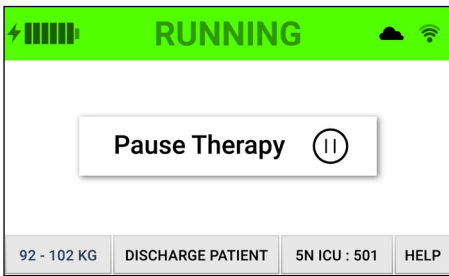

Figure 7. Running screen
When the controller is operating, a screen will display with a green status bar to indicate that the controller is running. (Fig. 7)
1. Therapy can be stopped by pressing "Pause" on the running screen. (Fig. 7)